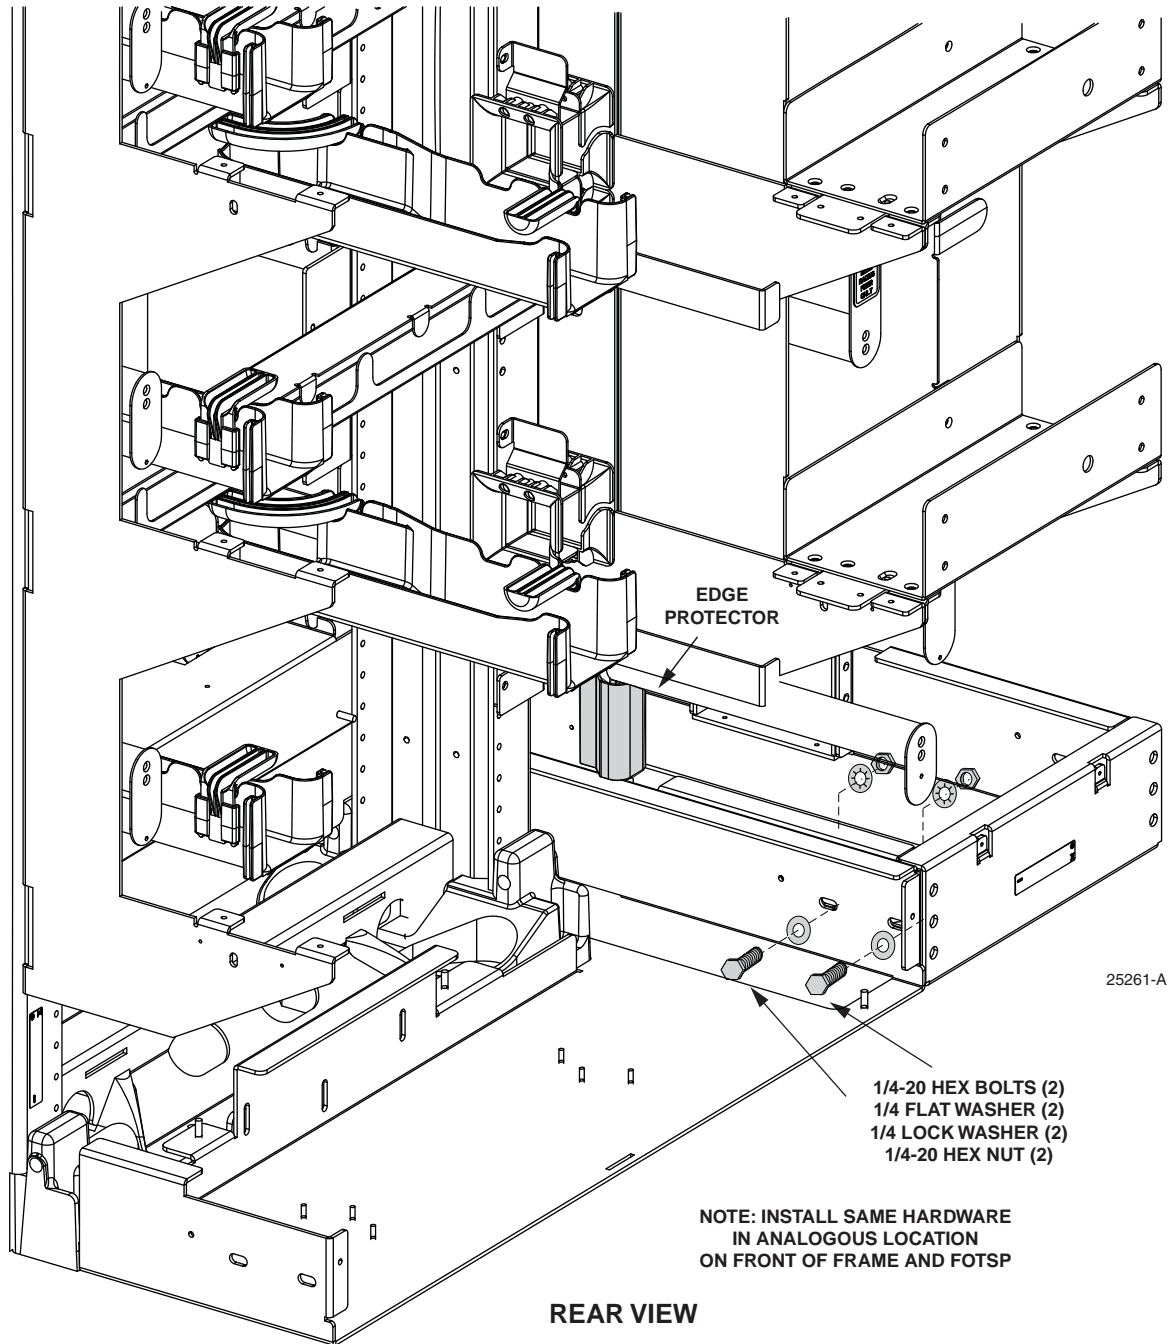

Figure 21. Bolting Together Frame and FOTSP Bases
7. To secure the bases of the frame and FOTSP together, install two hex bolts on the rear of the frame as shown in Figure 21, then, as noted, install two hex bolts in the analogous location on the front of the frame.
8. Install the edge protector on the FOTSP in the location shown in Figure 21.